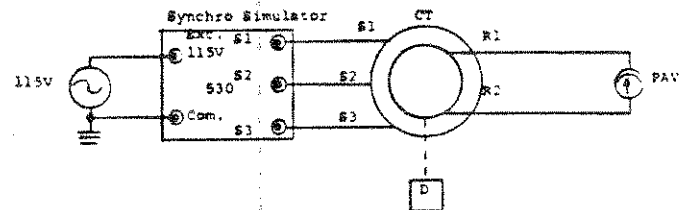

Figure 7-12. Angular Accuracy (CT)
- a. Set up equipment as shown in figure 7-12.